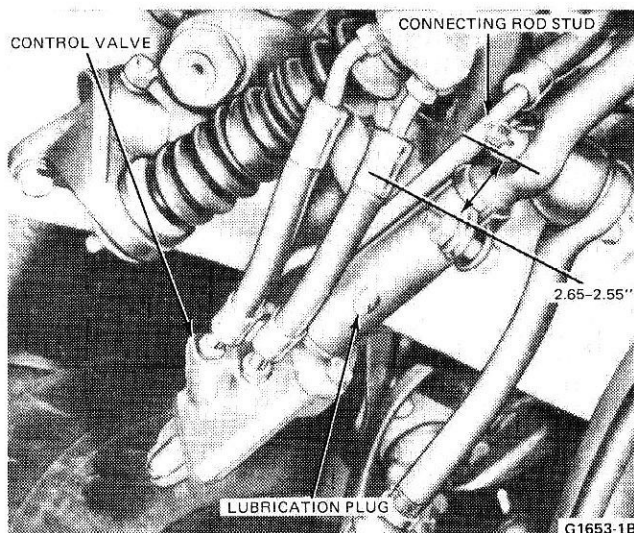

FIG. 4 Control Valve Installation Measurements
3. Measure the distance between the center of the left spindle connecting rod hole in the center link to the end of the control valve (Fig. 4). This distance **must** be 2.65-2.55 inches. If the distance is not correct, disengage the ball stud from the sector shaft arm and turn the valve on the center link to increase or decrease the distance.